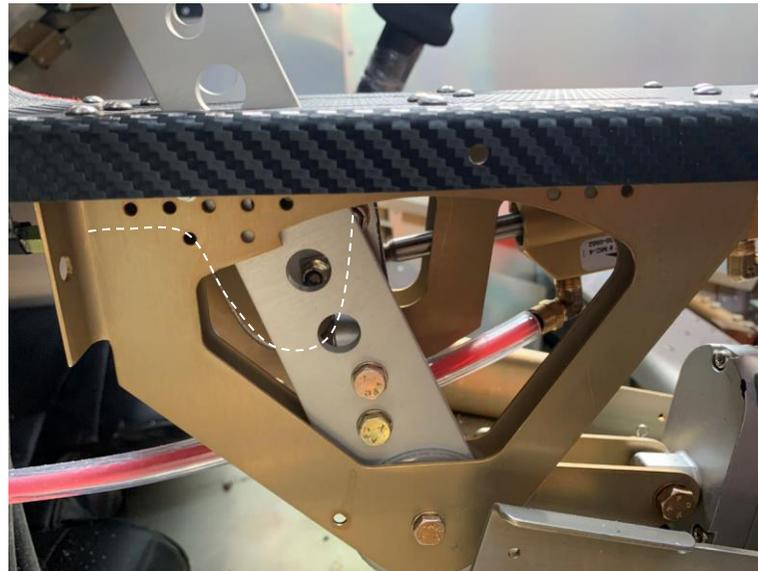

Figure 2: Inspect inner cable for kinking
- c) Check that the bolt (A), shown in Figure 2, which attaches the inner stainless-steel cable to the throttle link, can swivel freely.
- f) Verify that the inner cable does not kink as shown in Figure 2.